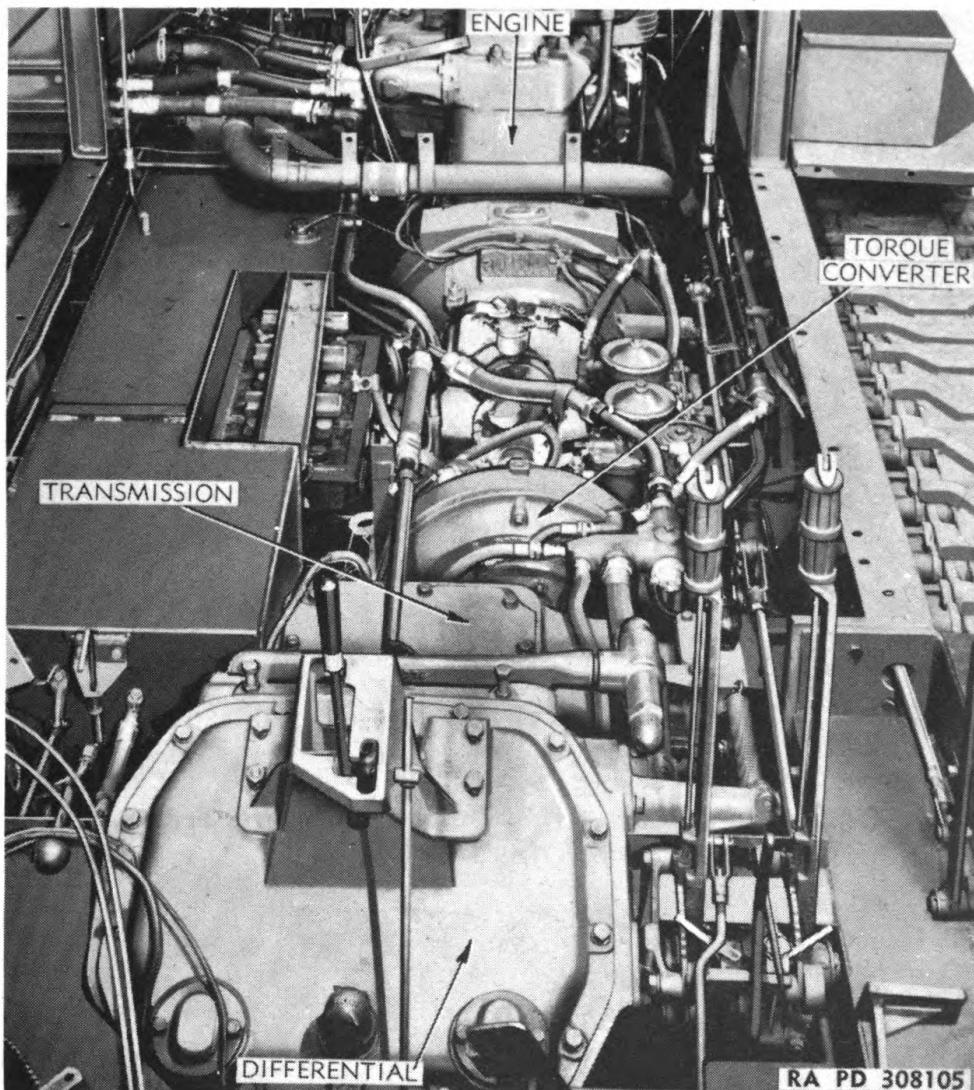

Figure 5 – Tractor With Cab Removed
c. Remove Front Bumper and Support Assemblies. Remove yoke pin from winch control rod and lever on left fender (fig. 5). Remove clutch pedal stop by removing the two attaching bolts. Remove the six bolts attaching front bumper supports to front posts of hull. Remove two cap screws from lower ends of bumper